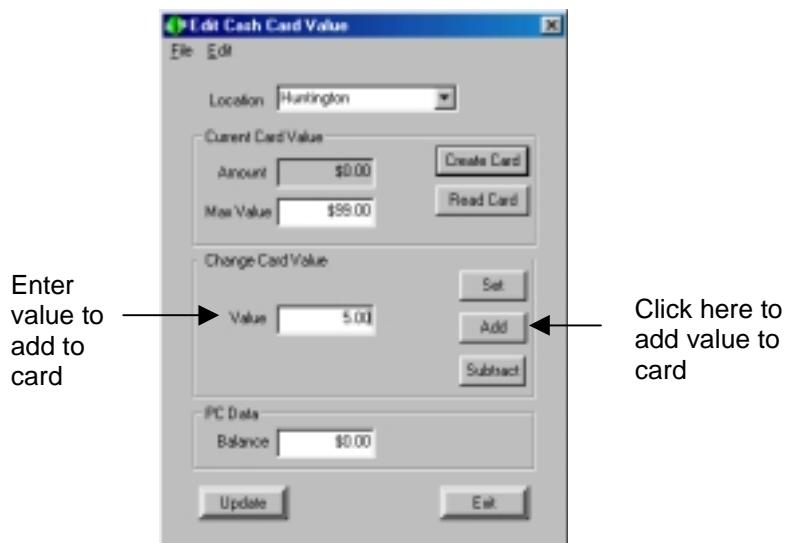

Figure 12.7 Adding Value to a Cash Card
3. Enter a value to add to the card (Figure 12.7).
4. Click the Add button (Figure 12.7).